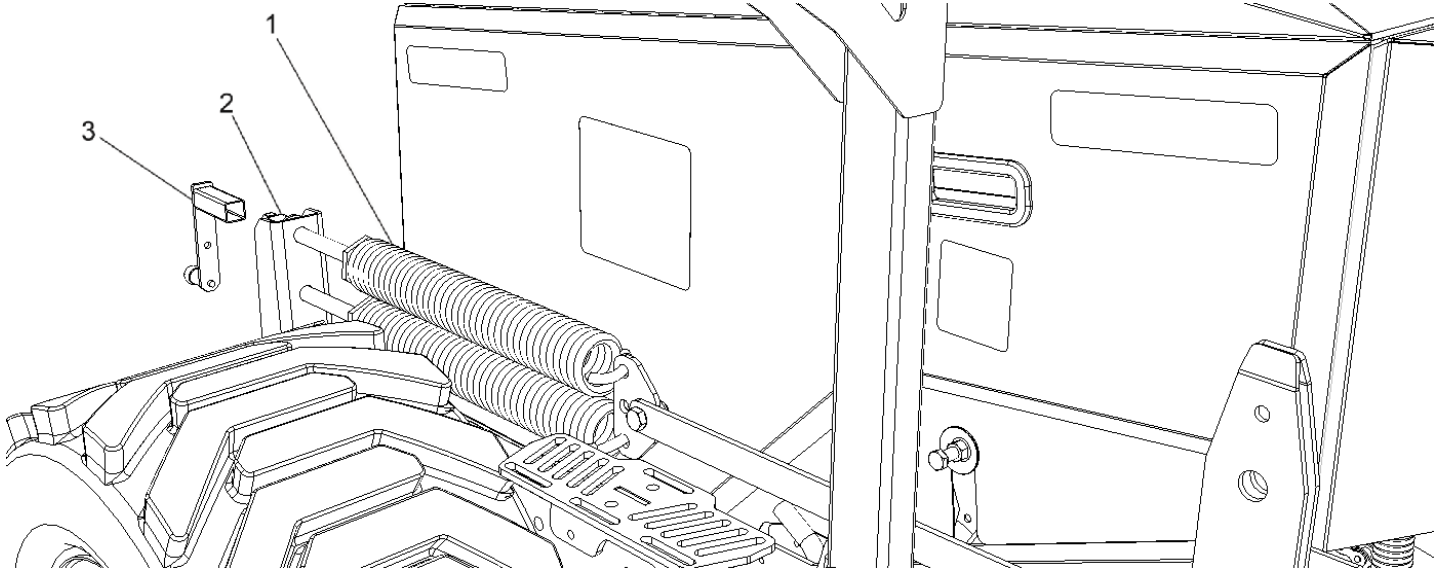

Figure 60 Header lift springs
STEP 1 - FIGURE 60
The suspension springs (item 1, Figure 60 Header lift springs) function is to control the header ground pressure. In general, the tension must be set to result in a weight of about 35 kg (75 lb) at the front of the header. The spring adjustment varies from one header to another.
STEP 3 - FIGURE 60